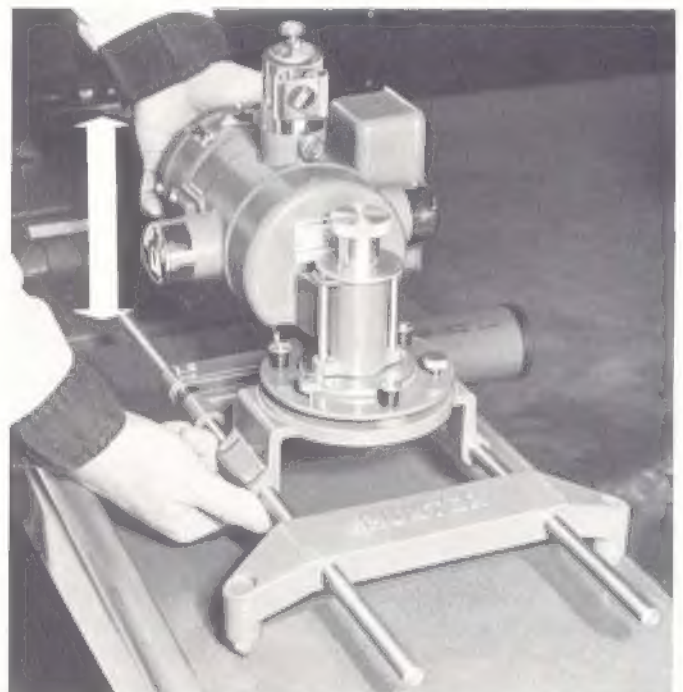

FIGURE 13
3. **TO CHECK PROJECTOR ADAPTOR ASSEMBLY:** First place projector on the floor or rack and slide **center casting** of projector (See Figure 13) on rods to approximate **center** between top and bottom casting. Check